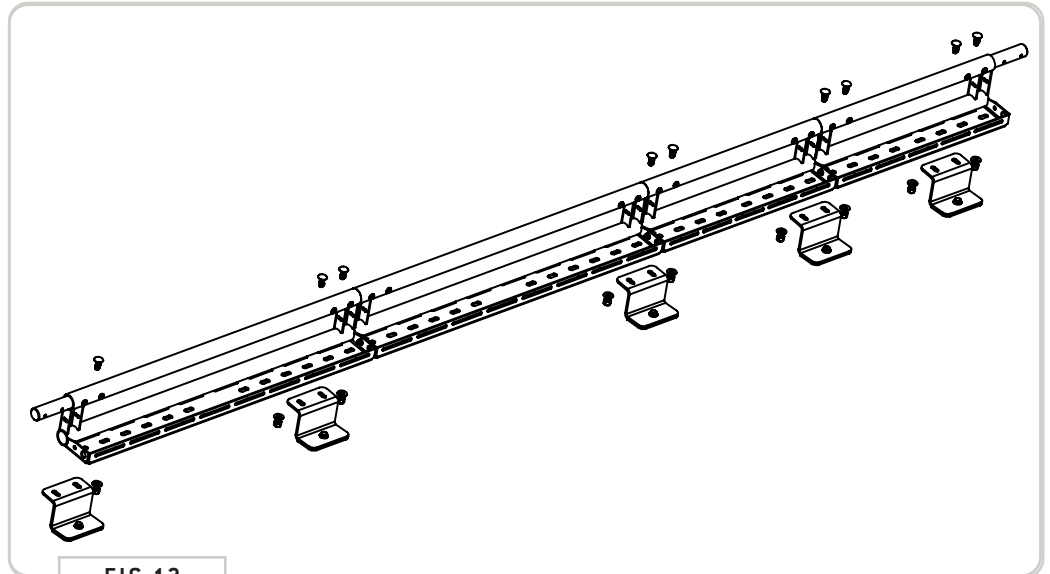

FIG 12
5.1 Mount Side Rails to Van Rails: With assistance, lift the **Side Rail Assembly** onto the roof. Align the **Side Rail Assembly** with the mounting holes of the **Foot Brackets** and secure loosely using **3/8-16" Carriage Bolts, Flat Washers and Nylon Locknuts** as shown in FIG 12+13.